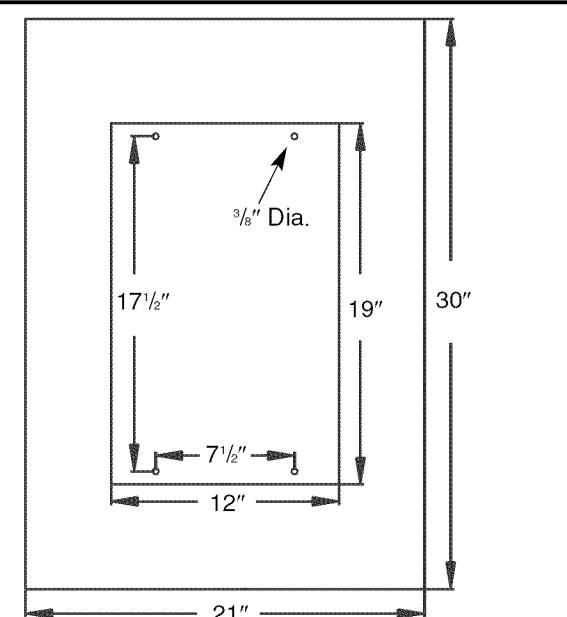

Figure 2 - Base Dimension and Required Space
Refer to Figures 2, 3 and 4.
Refer to Figure 2.
- Figure 2 shows the base dimensions, mounting holes and required space to allow for table assembly and belt assembly in horizontal position.